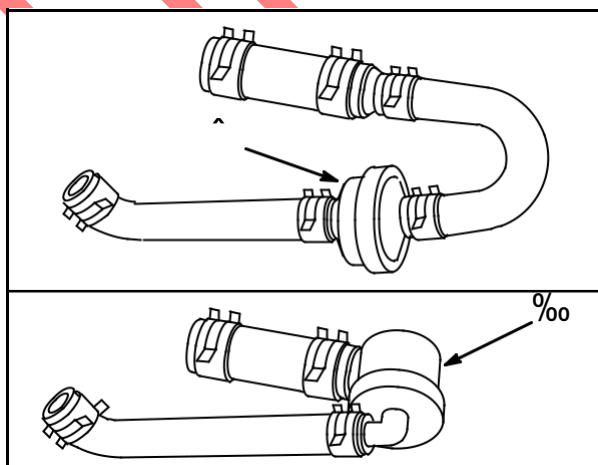

Fig. 14
Early (8) and current (9) style fuel filter assemblies for Vanguardt engines with the 9 quart fuel tank shown in **Fig. 14**.